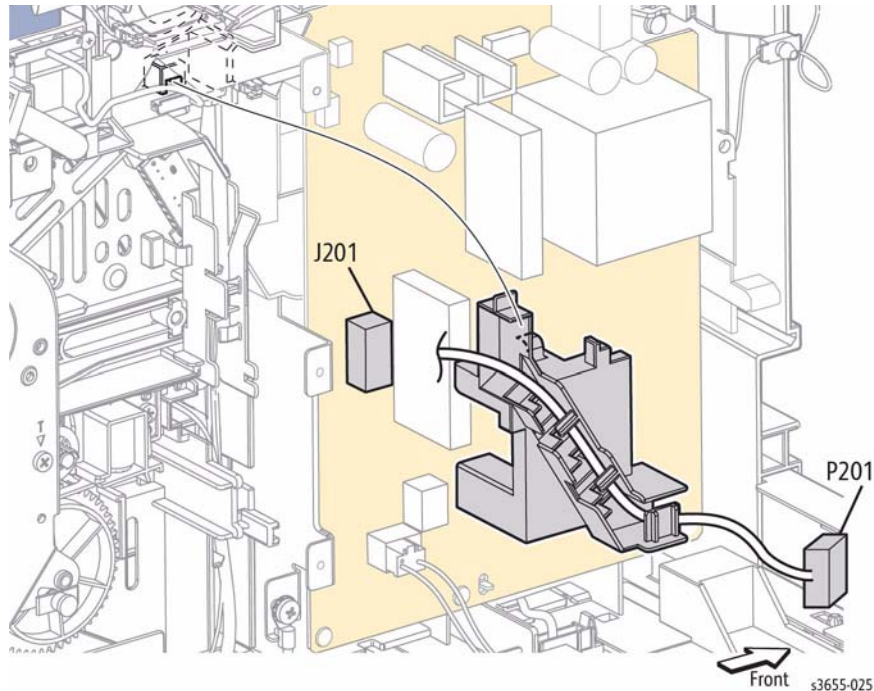

Figure 1 Release the Fuser Harness Guide
8. Refer to Figure 1 to locate and disconnect the Fuser from the LVPS, then release 1 hook at top that secures the fuser harness guide.